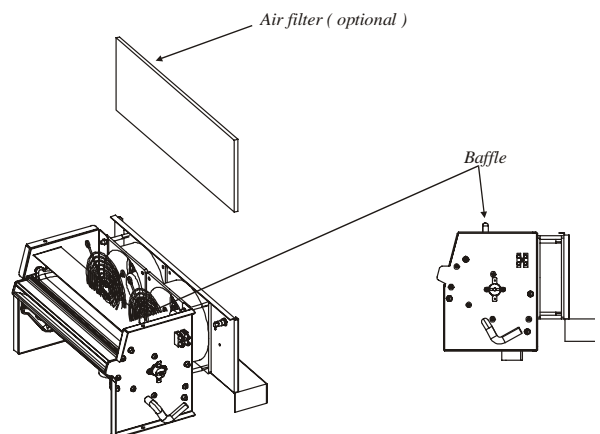

Fig. 7.1
- A. **Baffle.** The baffle is located slightly inside and upstream of the outlet: it is used to change the direction of the flow of steam (see Fig. 7.1). The angle should be established when starting the appliance the first time and only adjusted in the case of special needs. The angle should only be adjusted when the appliance is cold and not when steam is being released, due to the risk of burns!